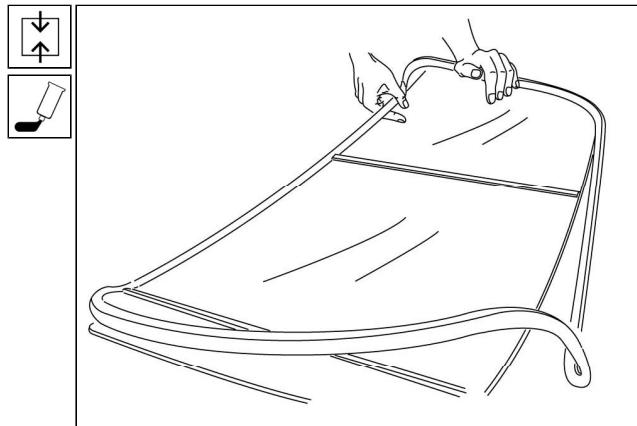

Fig. 13.40 Glazing rubber frame - installation
4. Fit the preheated glazing rubber frame on assembled glasses (See Fig. 13.40).